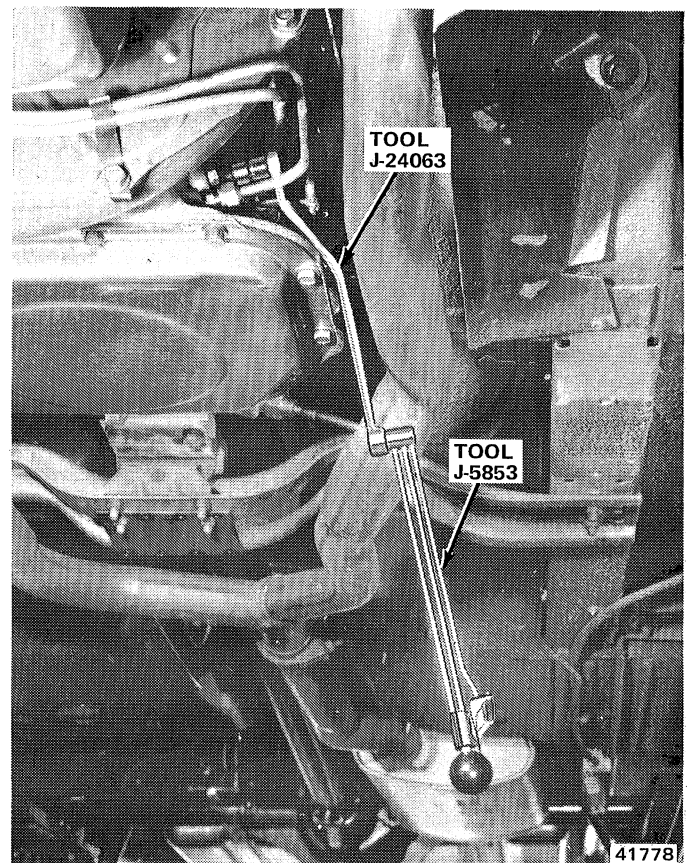

Fig. 2C-19 Front Band Adjustment
- (4) Tighten adjusting screw to 36 inch-pounds (4 N•m) torque using Torque Wrench J-5853, Adapter Tool J-24063 and 5/16 square socket (fig. 2C-19).